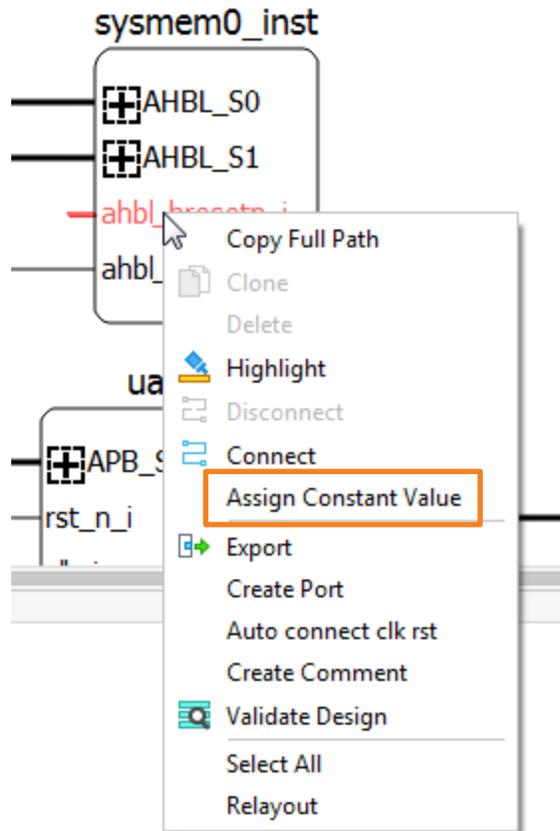
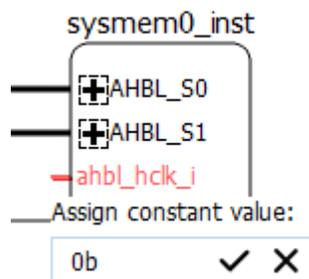

Figure 2.51. Action Menu of Right-clicking an Input Pin
Figure 2.52. Dialog Box of Assigning Constant Value to an Input Pin
- a. Select the desired pin and right-click the pin. Choose **Assign Constant Value** (Figure 2.51). A small dialog box appears (Figure 2.52).